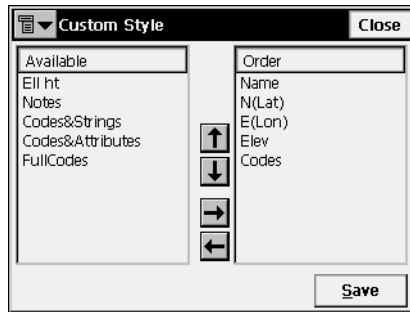

Figure 5-9. Custom Style
To create a new file format, enter the order of data using the *Custom Style* screen (Figure 5-9 on page 5-6).
4. Tap **Save** (Figure 5-9 on page 5-6). The combination will display in the *Select File Format* drop-down list on the *Text File Format* screen.